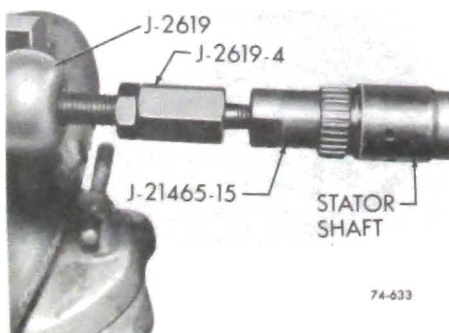

Figure 76-633
a. Thread J-21465-15 into stator shaft bushing. Thread Slide Hammer J-2619 into remover. Clamp slide hammer handle into vise. Grasp stator shaft and remove bushing. See Figure 76-633.